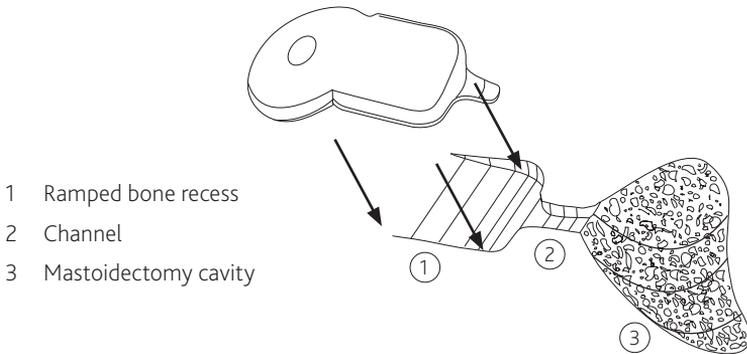

Figure 7: Ramped bone recess, electrode channel and mastoidectomy
5. Drill a channel to connect the bone recess and mastoid cavity — see *Figure 7*. The channel will help protect the electrode against trauma.